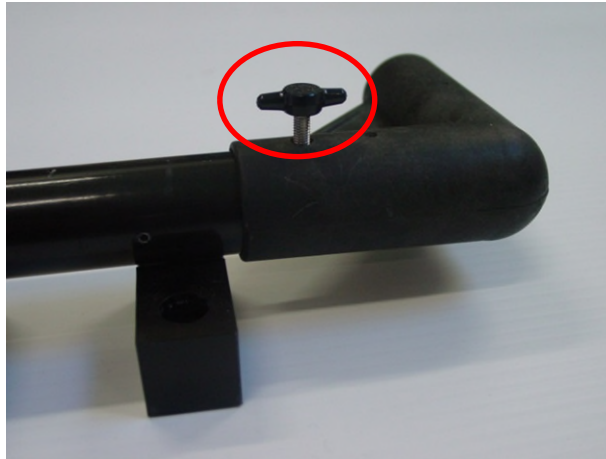

Figure 2-36: Connecting thumbscrew
2. Connect each piece using the four thumbscrews (Figure 2-36). Be careful not to strip the threads. The handle and odometer wheel are held in place with the corner brackets which are connected to the tow frame using the thumb screws.